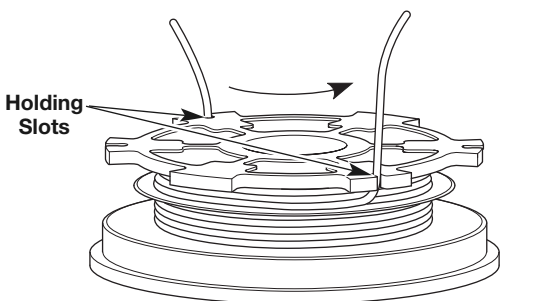

Fig. 17
3. Insert the two 6-inch sections into the two .095 holding slots (Fig. 17).
4. Insert the two 6-inch sections into the two .095 holding slots (Fig. 17).